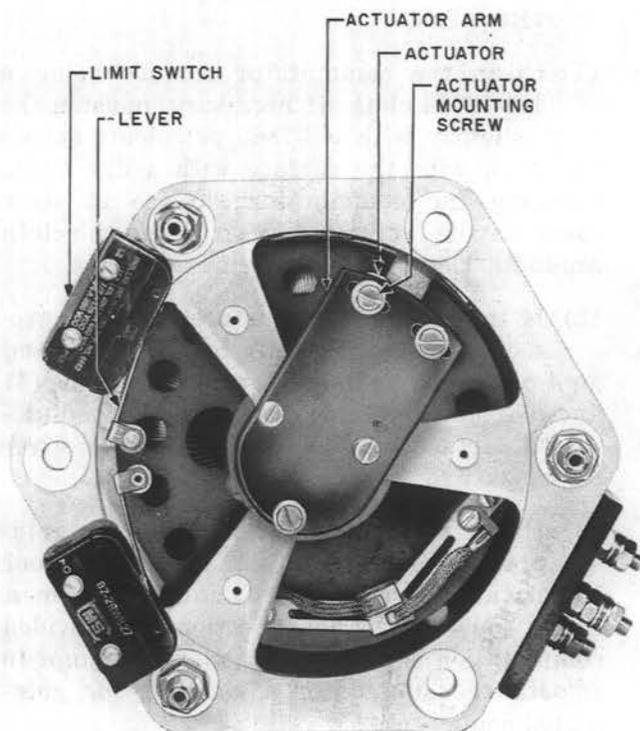

Fig. 6 — KS-15685 Autotransformer
(1) All Autotransformers Except KS-5552 Transtat — Fig. 6
- (a) Referring to Fig. 6, hold the actuator associated with the switch and slightly loosen the actuator mounting screw with the 4-inch E screwdriver. Move the actuator along the screw slot, toward the switch for earlier operation of the switch and away from the switch for later operation. Then, securely tighten the screw. In cases where the actuator is not adjustable or where further adjustment than the screw slots will allow is necessary, adjust the operation of the limit switch by bending the switch lever with the 485A smooth-jaw pliers. Then, recheck the requirement. If the requirement cannot be met, replace the limit switch as covered in Section 028-706-801.